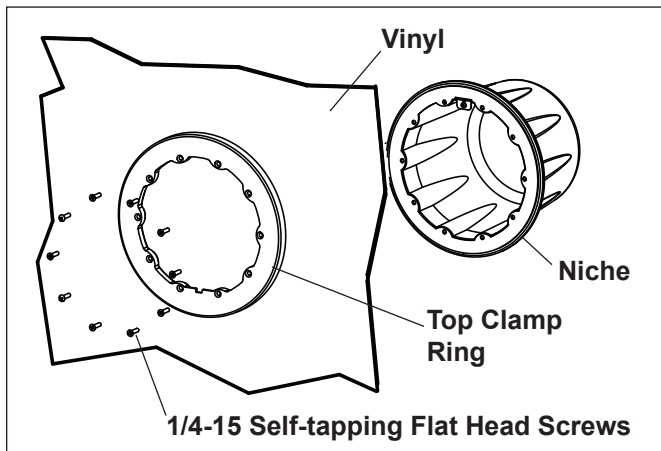

Figure 5. Vinyl Pool Installation
- c. Line up the face ring with the niche. Be sure to orient the niche so that the 'TOP' marking of the niche is in the 12 o'clock position and secure the face ring to the niche using using ten (10) 1/4-15 self-tapping flat head screws. Torque screws in a cross pattern to approximately 25 in-lbs. See Figure 5.